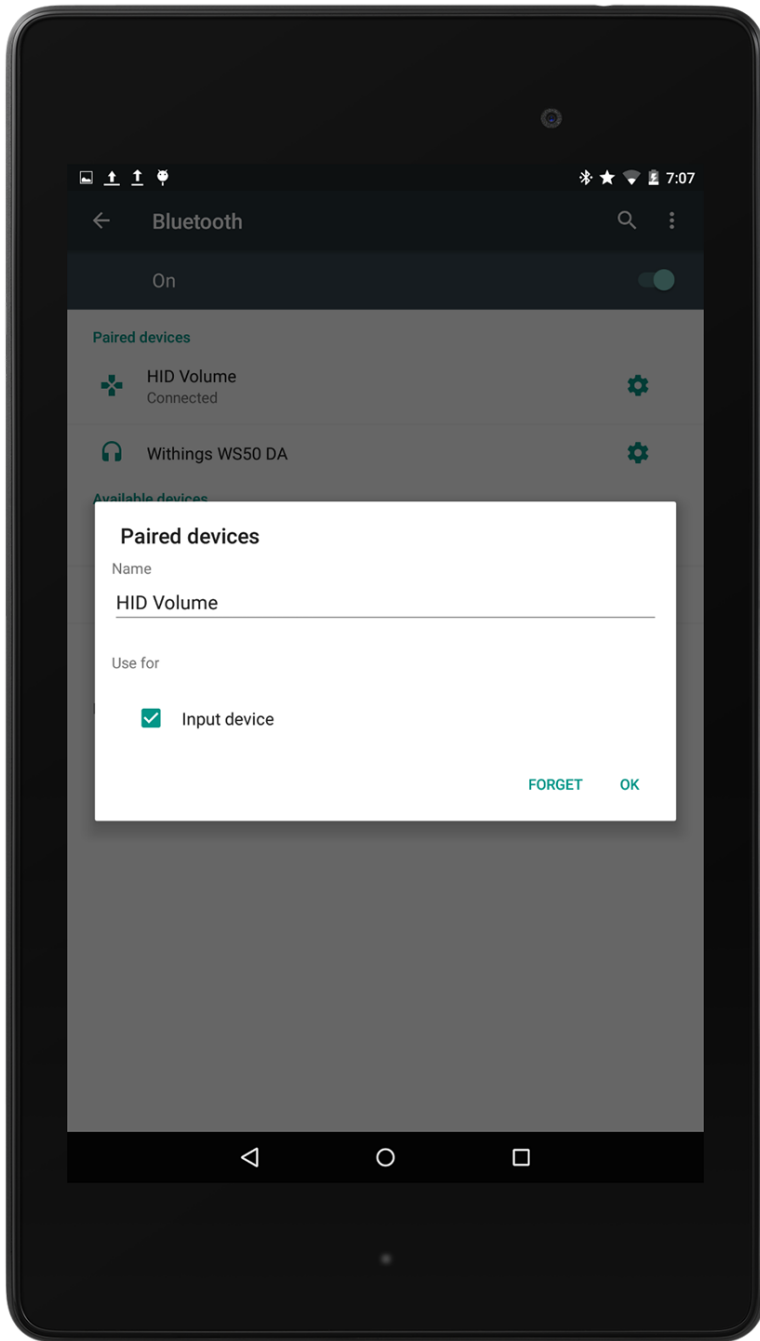

Figure A-6 *Unpairing a device on Android*
3. Touch “Forget” (Figure A-6).